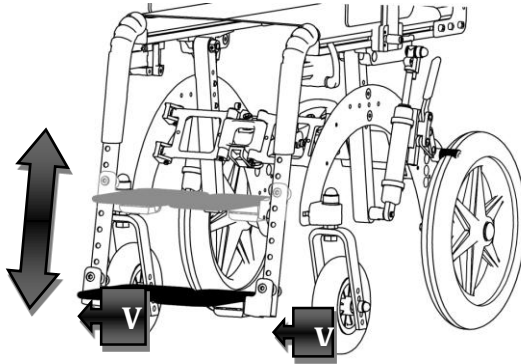

Figure 16
To make an adjustment in height of the footrest it is necessary to act on the screws (V) shown in Figure 16 and fix them to the desired height.